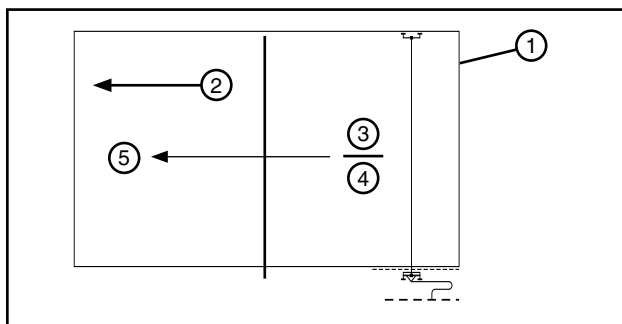

Figure 34-2 1. Field
3. Reverse the system direction, set the percentage timer, and run the system wet or dry back to the original end of the field. See figure 34-2.